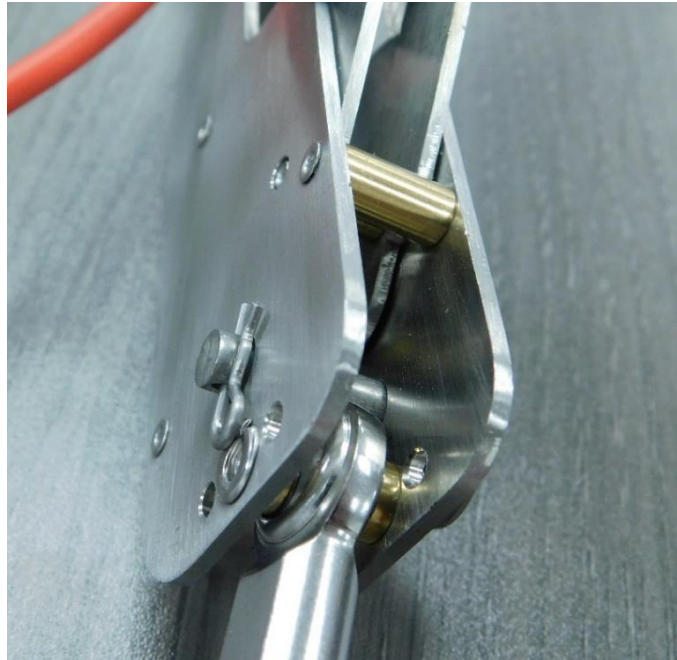

Figure 8: Secure Clevis Pin with Locking Hair Pin
- c. Secure the clevis pin on the opposite side of the wheel assembly by inserting the hair pin through the clevis pin (see Figure 8).